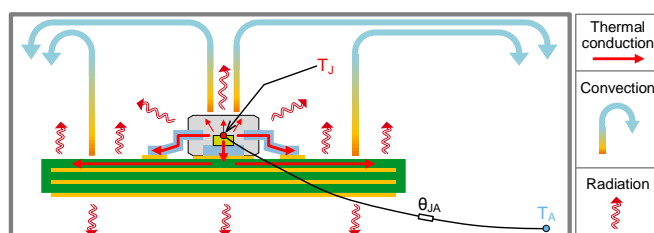

Figure 1. Definition of θ_{JA}
θ_{JA} is the thermal resistance from the junction of the device to the ambient temperature. It is also represented by other symbols including R_{thJA} , $R_{\theta JA}$, and Θ_{JA} . θ_{JA} is shown in Figure 1. It is also shown in Equation (1) where the difference between the junction temperature and the ambient temperature is divided by the power loss (heat flow).